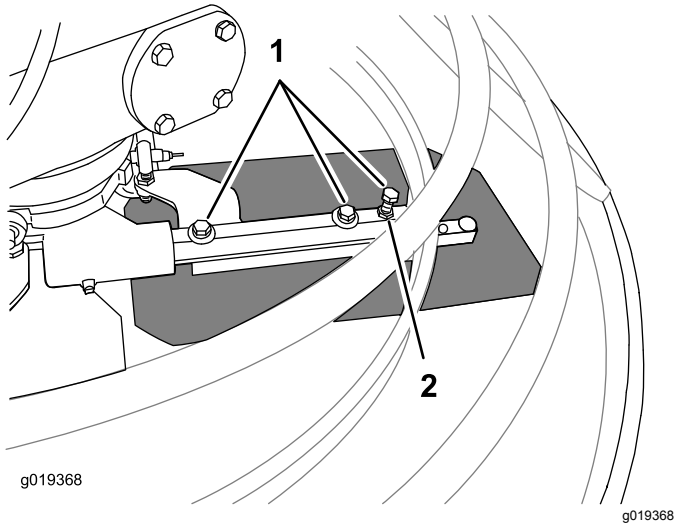

Figure 34
4. Loosen the bolts 3 to 4 turns (Figure 34).